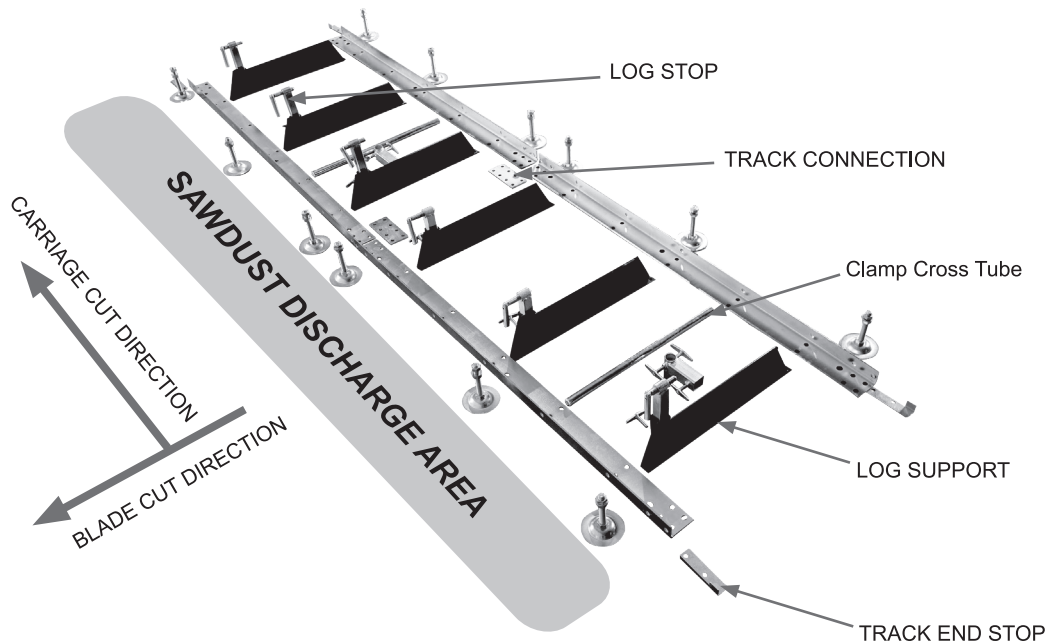

Fig. 4
Step 4: Layout the track, log supports, and leveling feet. Begin assembly by laying out the track, leveling feet, and log supports (Fig. 4) at the location where it will be set-up. Place the Log Supports so that the log stop tubes are on the same side where the sawdust discharge area will be. This will ensure the cutting direction of the blade will always push the workpiece against the log stops while cutting.